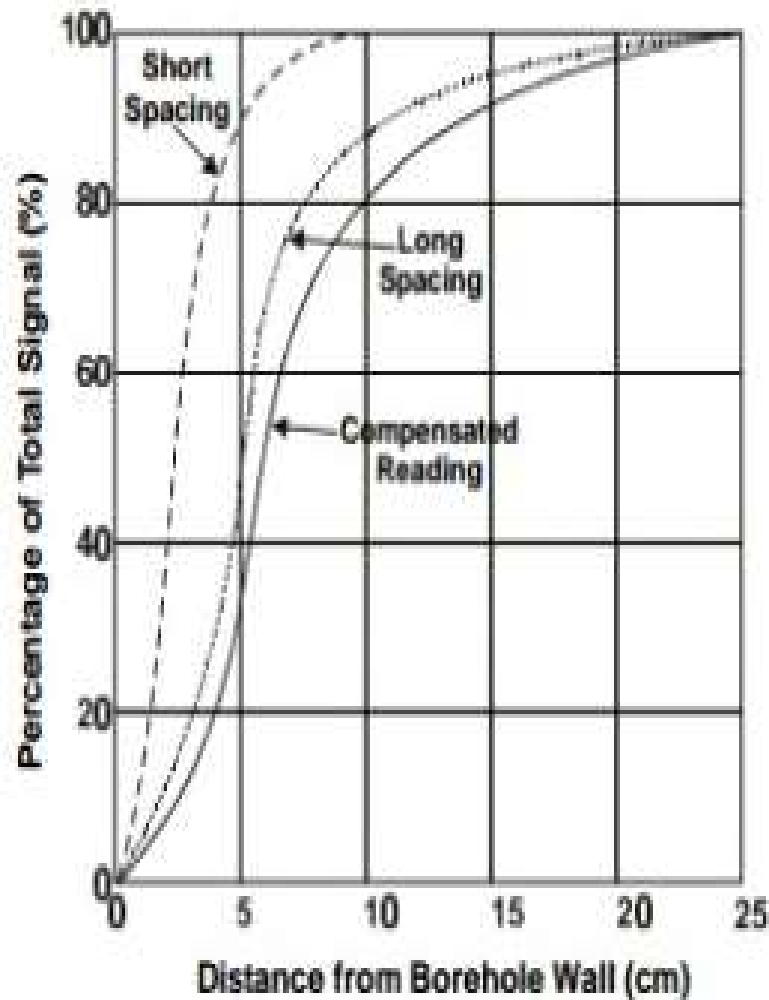

Figure DL2
- Note in Figure DL2 that for the short spacing detector over 80% of its signal comes from within 5 cm of the borehole wall, which is commonly mainly mudcake. About 80% of the long spacing signal comes from within 10 cm of the borehole wall. Therefore, the tool has a shallow depth of investigation. When the mudcake compensation has been carried out, one can see from Figure DL2 that the depth of investigation has been improved, and less signal comes from the first 5 cm region. The depth of investigation of a density tool decreases with increasing density.